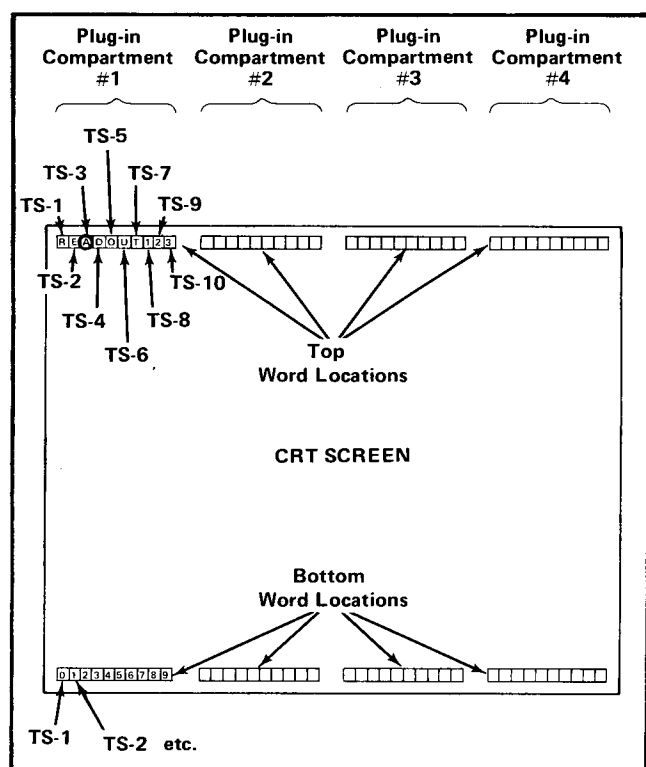

Fig. 5. Readout Word Locations and Timeslot Locations.
Each of the oscilloscopes four plug-in compartments are allotted two word locations located at the top and bottom of the CRT screen (see Fig. 5). Each word location can be encoded to write up to ten characters. For each of the ten spaces available in a word location there is a corresponding timeslot (TS) pulse. The timeslot pulses interrogate the readout encoding resistors in the plug-ins. The resulting information is returned to the oscilloscope readout system as various row and column currents. These row and column currents select the characters or operations from the matrix shown in Fig. 7. For example: to obtain the letter "A" there must be 0.4 mA of row current and 0.3 mA of column current.
The timeslot pulses are always -15 volts in amplitude. Therefore the current flowing from the timeslot lines through the plug-in encoding resistors into the row and column return lines is a direct result of the value of the encoding resistors as given by Ohm's law. For example: In order to place the letter "A" at timeslot location 3 of the top word location (circled in Fig. 5), a 37.4 kilohm resistor (-15 volts/0.4 mA) must be placed between TS-3 and the row return line B37 and a 50 kilohm resistor (-15 volts/0.3 mA) between TS-3 and column return line A37. Refer to Table 2 for interface pin connections.